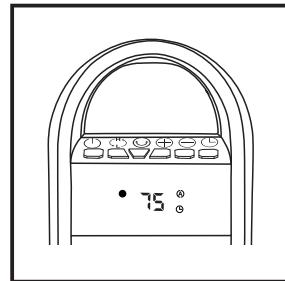

Figure 2
(Figure 2)
3. When the heater is initially plugged in, there will be a "beep" and the **Power Light** will come on indicating that there is power to the unit. The **Power Light** will remain lit until the heater is unplugged from the electrical outlet. (Figure 2)
4. Turn the heater ON by pressing the **Power Button** (1).
6. Press the (2) button to switch over LOW or HIGH heat.
7. To turn the heater OFF, press the **Power Button** (1). The unit will first turn off the heating elements, the fan will be shut down 30 seconds later. Unplug the unit by pulling the plug from the electrical outlet only after the fan stopped.